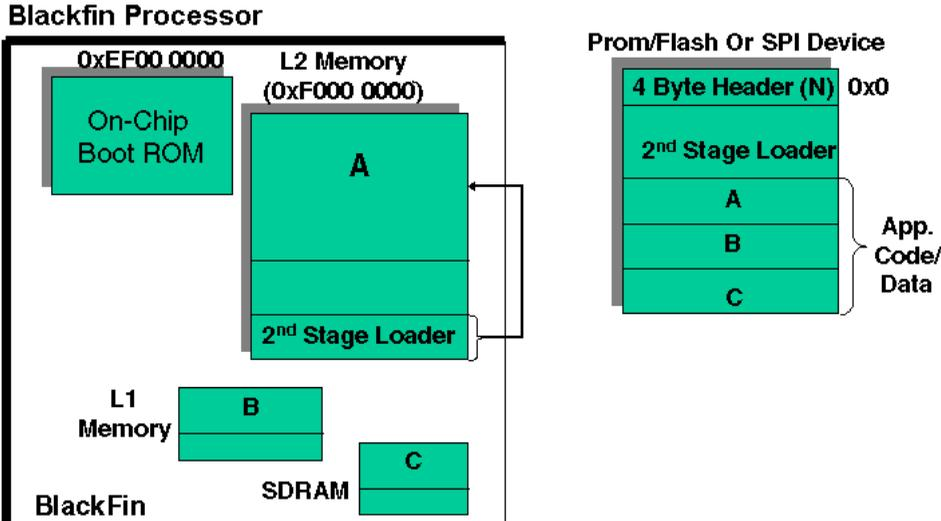

Figure 5-7. Boot Kernel Loader Jumps to the Start of L2 Memory
- Finally, after booting, the second-stage loader jumps to the start of L2 memory ( $0xF000\ 0000$ ) for application code execution (Figure 5-7).